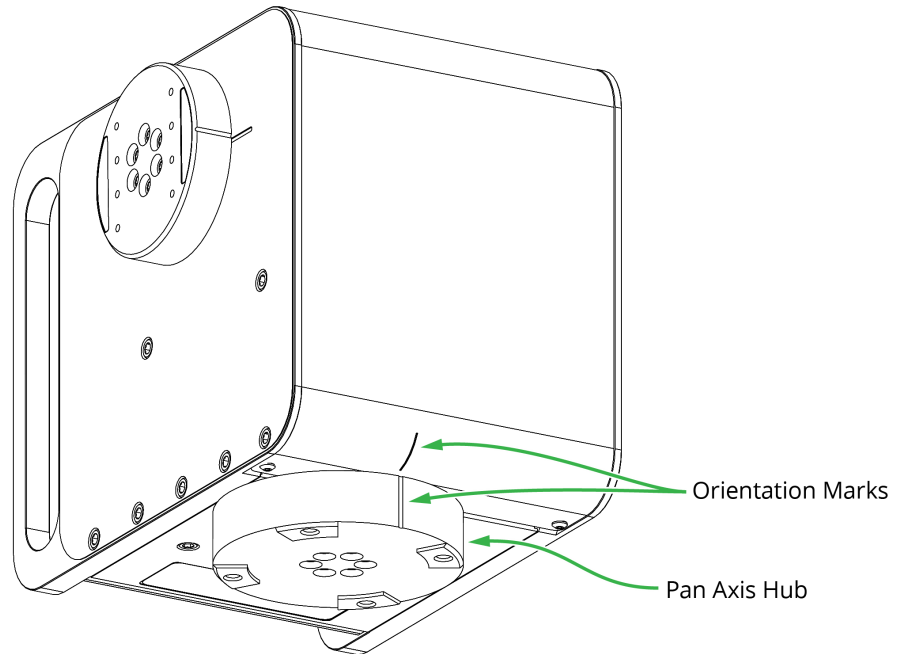

Figure 4 - X300, showing Pan Axis Orientation Marks
1. Find the orientation mark on the **Pan** axis hub and note whether it is aligned with a similar mark at the front of the head (**Figure 4**). The front is the side that is opposite from the connection panel.